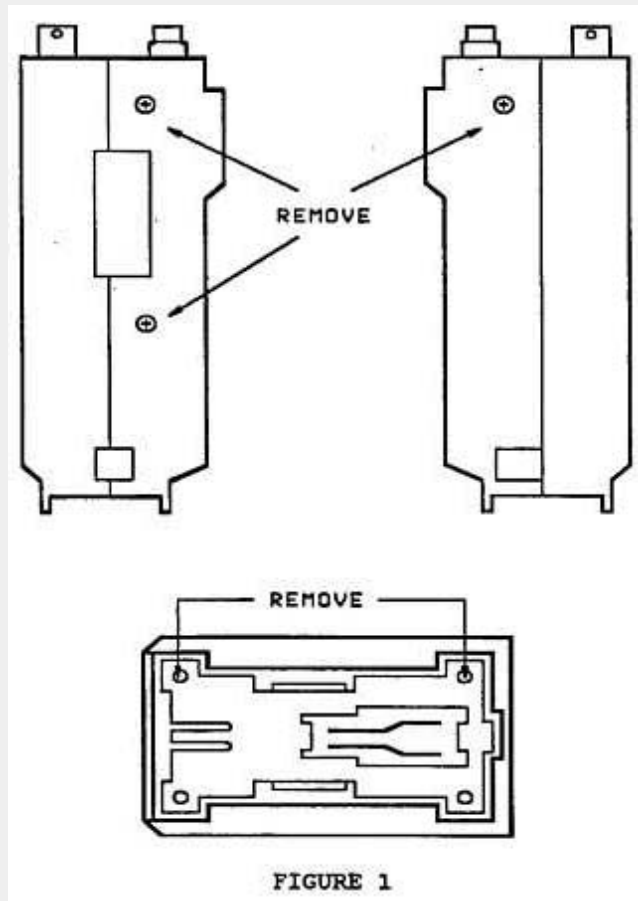

FIGURE 1
2. Remove the three case screws and two battery plate screws. Figure 1.